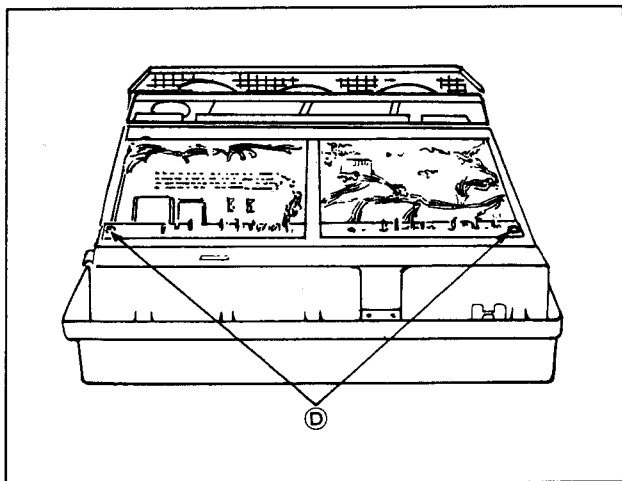

Fig. 4
- 1) Loosen 2 screws ① counterclockwise by 90° as shown in Fig. 4.